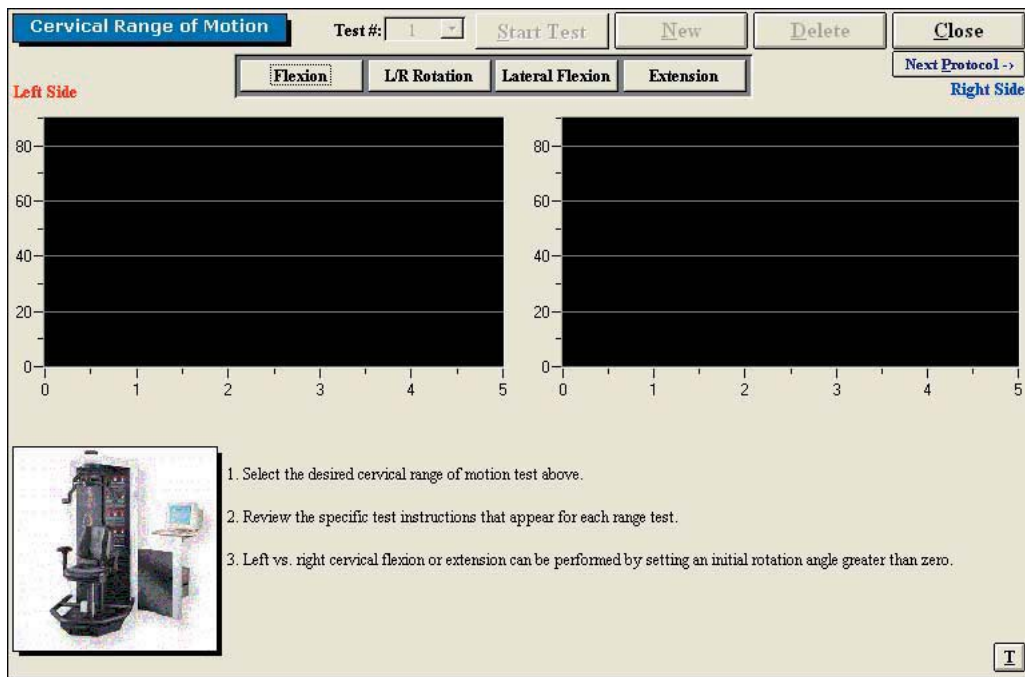

Figure 6-24. Cervical Range of Motion Main Screen
Step 2. Once a test has been assigned to a client, highlight the test name in the right box and click **Perform Test** to bring up the testing screen (Figure 6-24).